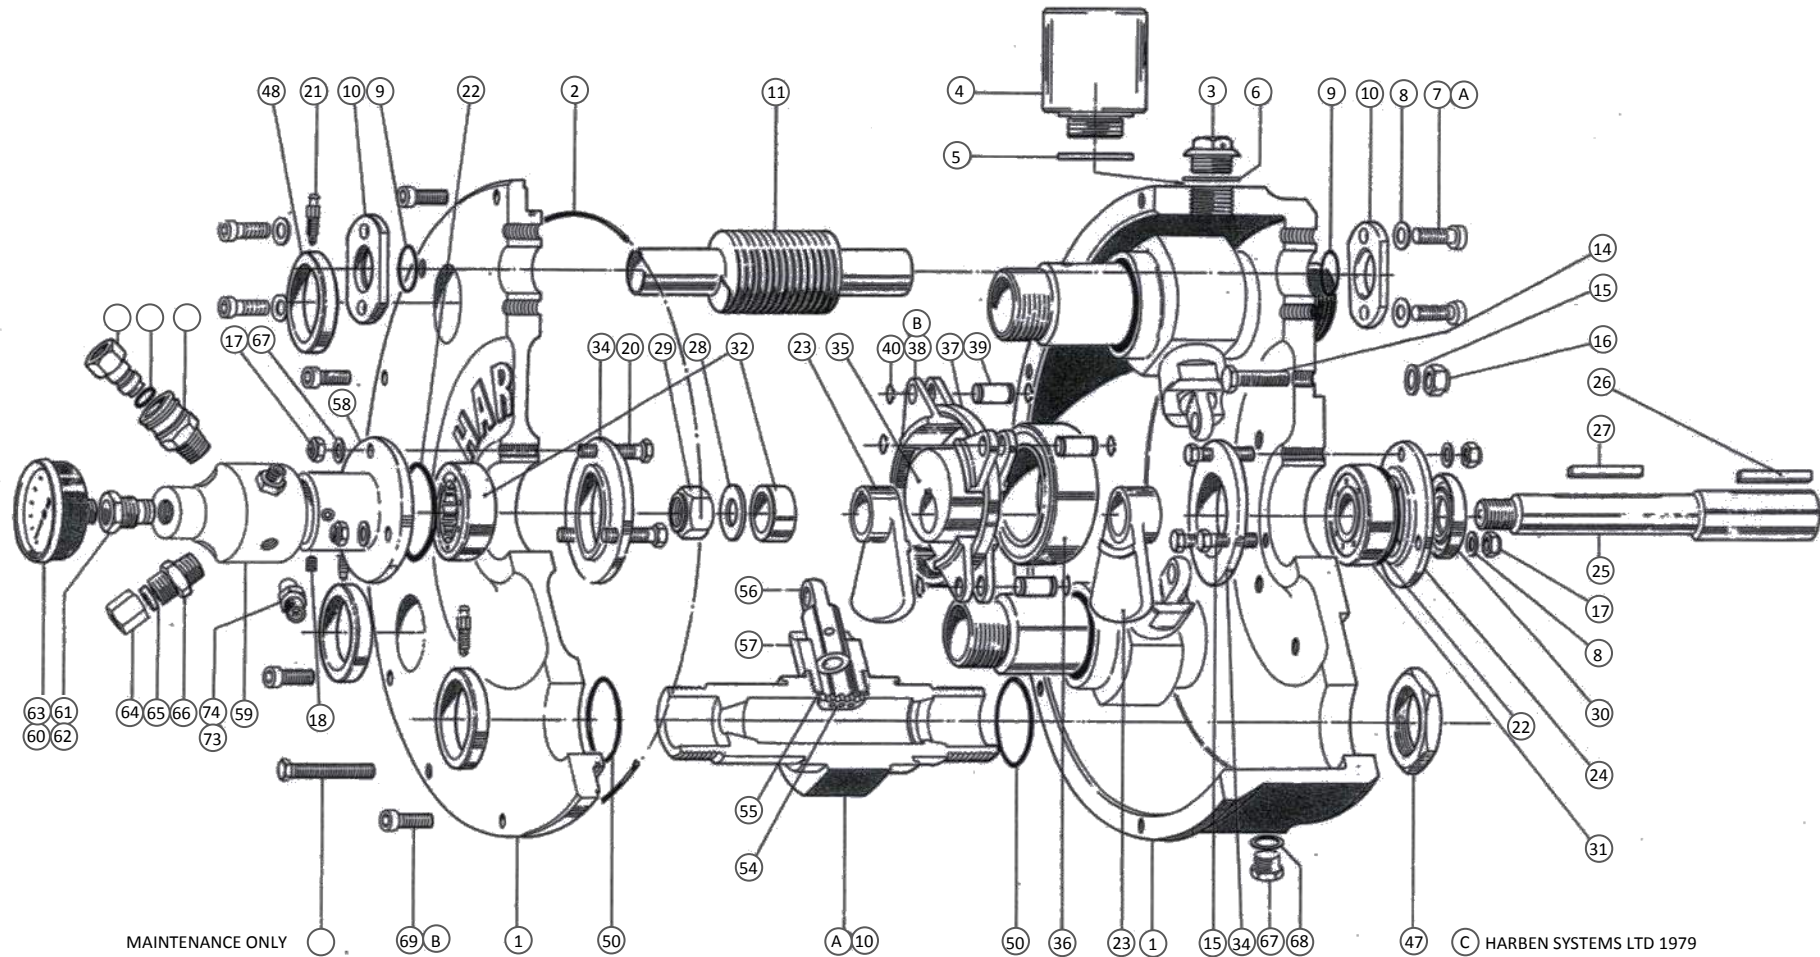

Fig 4.3 'P' Type and High Lift Pump – Pump Assembly
9. In the following overhaul procedures, the item number that follows the description of a part refers to the assembly drawings (Figs 4.3 to 4.6). Where the letter M appears before the item number, refer to the Inlet Manifold Assembly drawing (Fig 4.7). Where the letter R appears before the item number, refer to the Manifold Delivery Assembly drawings (Figs 4.8 and 4.9).